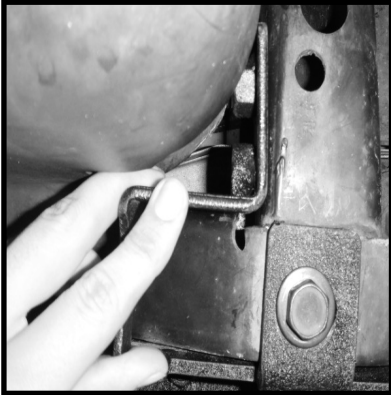
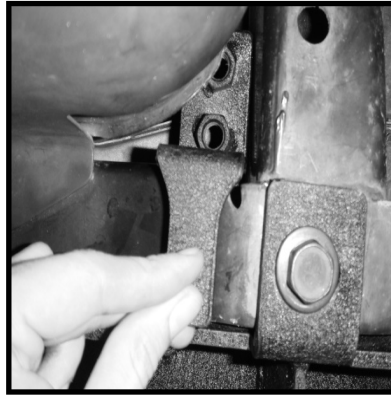

Figure 6.
Figure 7.
4. From under the vehicle, align the nut plate as shown in Figure 6. Rotate the nut plate to the right (Figure 7) and place in the channel on the backside of the crossmember. Line up the nut plate holes with the crossmember and sub-frame. Attach nut plate using the supplied M12 x 35 bolts and washers from inside of the sub-frame (Figure 8). Do not tighten the bolts at this time.